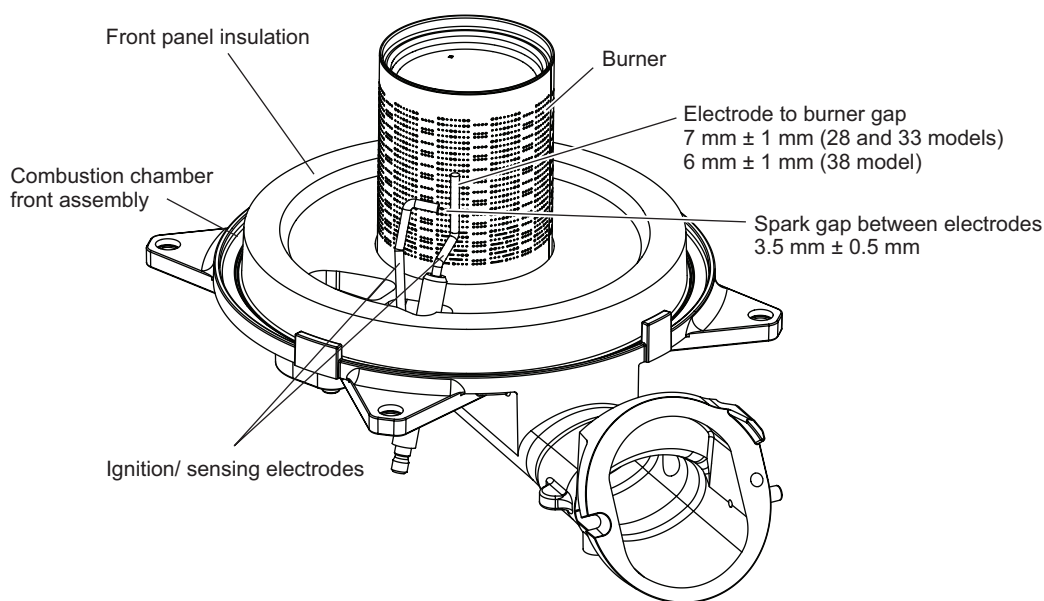

Fig. 7.6
8.3 IGNITION AND SENSING ELECTRODE - Fig. 7.6